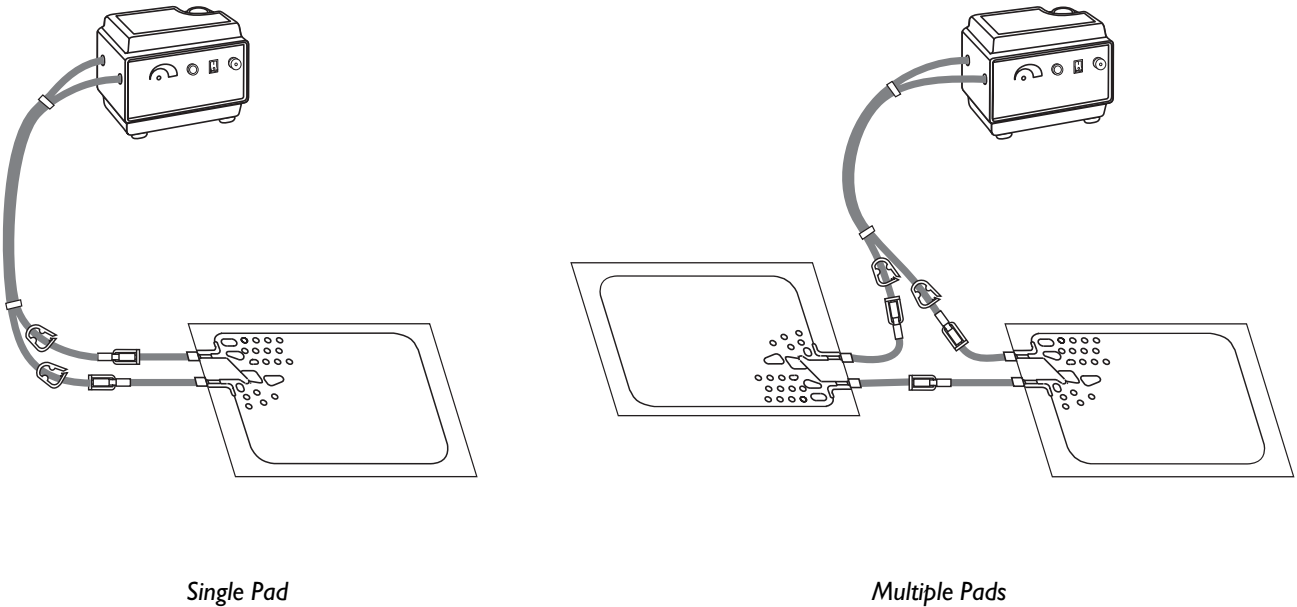

Figure 1 - T/Pump Heat Therapy System
Attached Hose with Clik-Tite Connectors	10 ft (305 cm) dual channel. Connectors have male/female fittings (see fig. 3, p. 6) allowing pads to be interconnected, providing therapy to more than one body site at a time (fig. 1, p. 3).
**NOTE:** Refer to figure 1 (p. 3) and item 9 (p. 7) when connecting multiple pads.